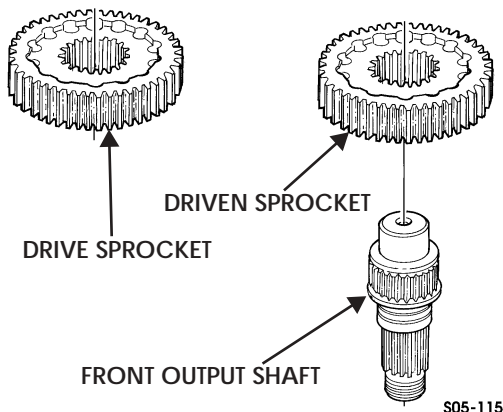

Figure 5-168: Chain Sprockets
1. Inspect drive and driven sprockets. Replace if damaged (Figure 5-168).